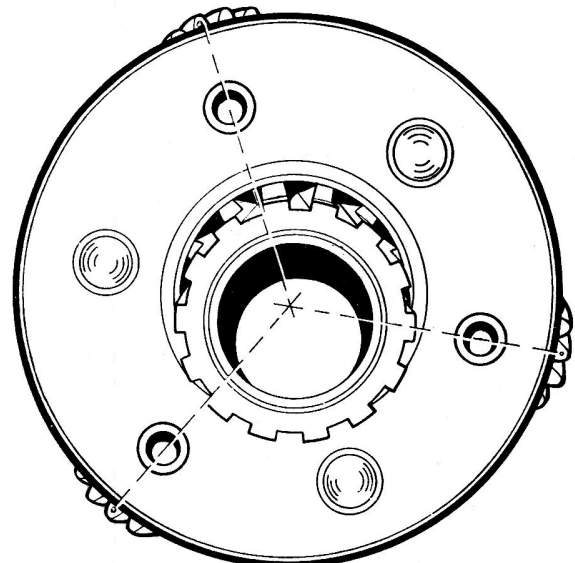

Fig.6.35. The marked teeth of the planet carrier gears must be positioned as shown for assembly
- 6 Now fit the planet carrier, with its gears, over the sun wheel so that the marked teeth of the gears are facing outwards as shown in Fig.6.35. With the assembly in this condition, fit it to the annulus.
- 10 It is essential that the thrust washers at the front and rear of the sun wheel are fitted in their correct positions. At the front of the wheel the steel washers are fitted next to the head of the support bush in the housing and the bronze washer goes between the steel one and the sun wheel. At the rear, the steel washer fits between the two bronze washers; the bronze washers are similar and it does not matter in which position they go. After replacement of the washer, if applicable, assemble the gear train but do make sure that the planets are turned to their correct relative positions (Fig.6.35).
14 Turn each planet gear until a dot marked on one tooth of the large gear is positioned radially outwards. **THIS IS IMPORTANT.** (See Fig.6.35).